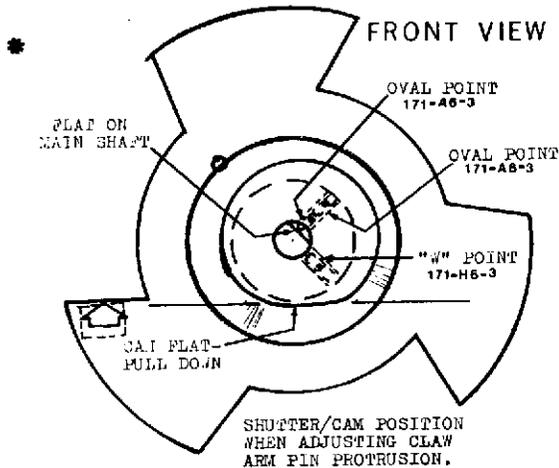

Figure 3-32. SHUTTER & SHAFT ALIGNMENT
- (6). Remove jack screw and loosen two other screws as shown (Fig. 3-32). Position gage with bottom (No-Go) step aligned with top pin (protruded and started down). With firm finger grip on shutter, 1/16" allen wrench in setscrew on flat . . . press shutter forward. Observe meter. When pins make contact, ease off finger grip. When contact breaks, tighten setscrew.
- (7). Check "Go" position (step 5) and repeat if necessary.
- (8). Tighten and replace all screws when acceptable.